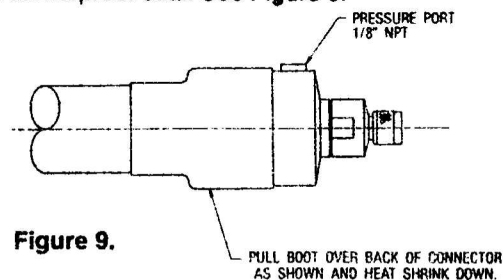

Figure 9.
- Slide the heat shrink boot into place over the backnut. Use a heat gun or apply a light flame to the boot until it shrinks smoothly forming a weatherproof seal. See Figure 9.